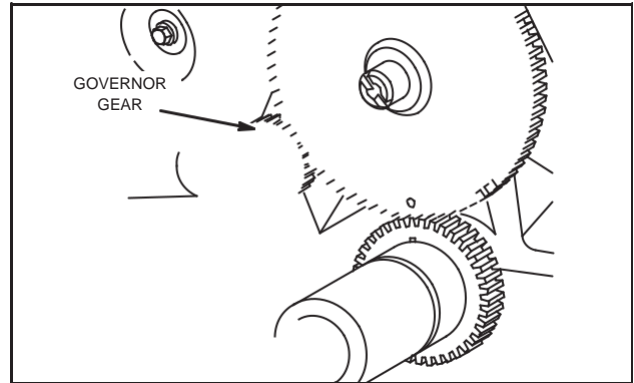

Fig. 14 – Install Governor Gear
1. Lubricate thrust washer, governor gear and governor cup with engine oil and assemble to shaft, Fig. 14.